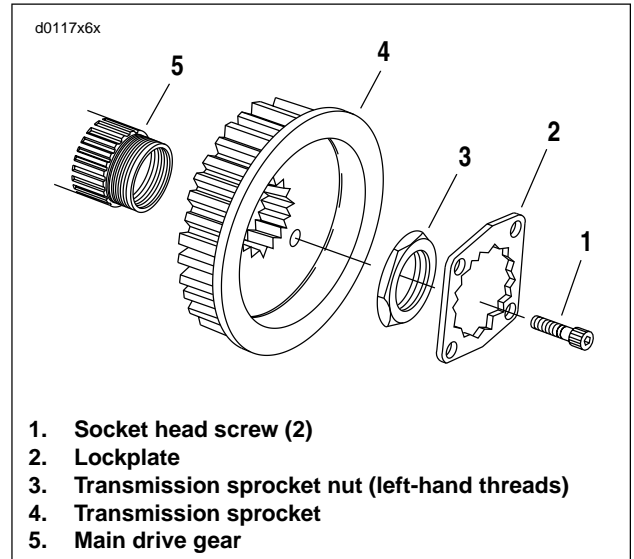

Figure 6-93. Transmission Sprocket
8. See Figure 6-93. Place transmission in first gear. Remove two socket head screws (1) and lockplate (2).
1. See Figure 6-93. Install transmission sprocket (4) with secondary drive belt onto main drive gear (5).
3. Apply a few drops of LOCTITE 262 (red) to the **left-hand threads** of transmission sprocket nut (3) and lightly coat the washer-faced side with clean H-D 20W50 engine oil. Wipe off any excess oil.
9. See Figure 6-93. Install lockplate over nut so that two of lockplate's four drilled holes (diagonally opposite) align with sprocket's two tapped holes.
10. See Figure 6-93. Install two socket head screws through aligned holes of lockplate and into tapped holes of sprocket. Tighten to 90-110 **in-lbs** (10.2-12.4 Nm).